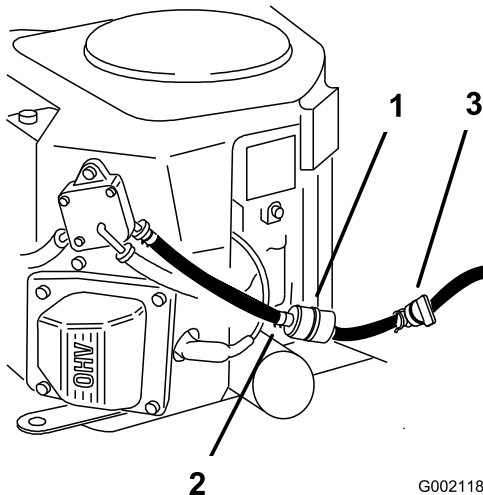

Figure 60
4. Close the fuel-shutoff valve under the seat (Figure 60).
5. Squeeze the ends of the hose clamps together and slide them away from the filter (Figure 60).
7. Install a new filter and move the hose clamps close to the filter (Figure 60).